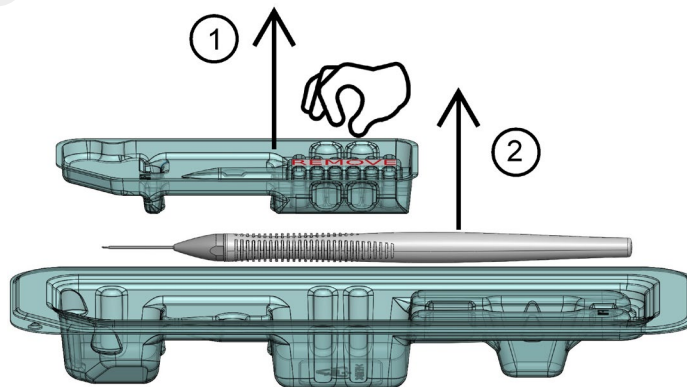

Figure 3: Removal of SION from tray packaging
- d. First, remove the tray insert (1). Pull insert directly upward to avoid damaging the SION tip. Then, remove SION from the packaging tray (2), making sure to hold the textured grip (Figure 3).